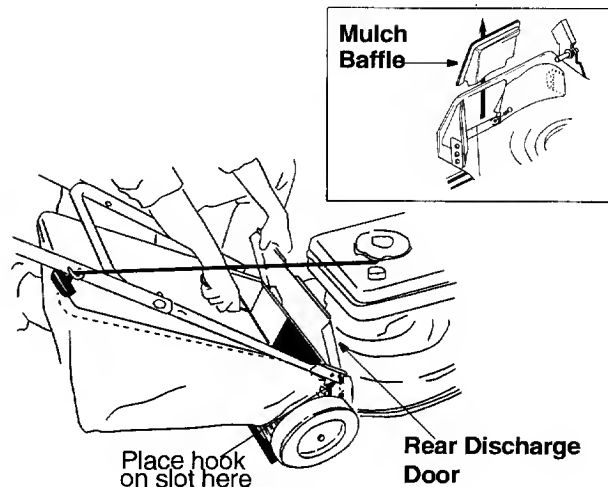

Figure 6
- Your mower is equipped with a mulching baffle, it is in place on the mower. To remove the mulching baffle, lift the rear discharge door on the mower. Remove the mulching baffle. See Figure 6 inset.
- **To attach the grass catcher:** Lift the rear discharge door on the mower. Place the hooks on the grass catcher into the slots in the handle bracket assemblies. Release the rear discharge door. See Figure 6.
- **To remove the grass catcher:** Lift the rear discharge door on the mower as shown in Figure 6. Lift the grass catcher up, out of the slots in the handle bracket assemblies. Release the rear discharge door.